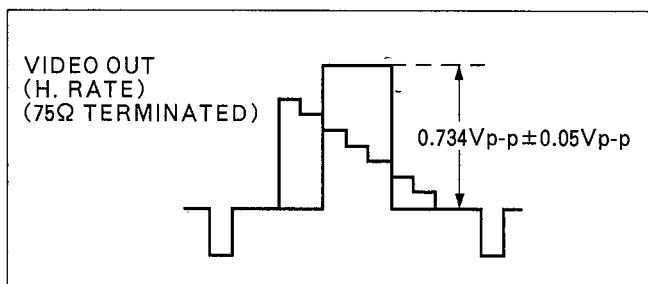

Figure E19
2. Adjust VR8804 so that the Y level becomes  $0.734\text{Vp-p} \pm 0.05\text{Vp-p}$  as shown in Figure E19.